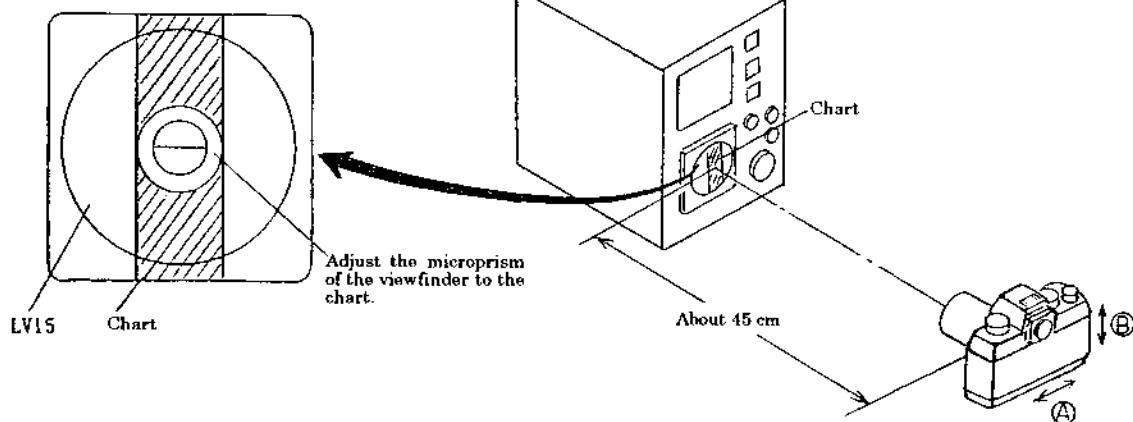

Fig.79
- 10) Look into the viewfinder and swing the camera gently right and left (in the direction of the arrow (A)). (See Fig.79)
- 14) Look into the viewfinder and swing the camera gently up and down (in the direction of the arrow (B)). (See Fig.79)